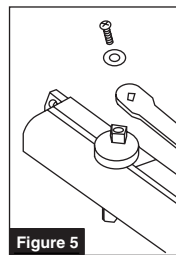

Figure 5
4. Attach assembled arm to closer spindle with washer and 1/4-20 x 1/2" FUHPMS. (Figure 5)